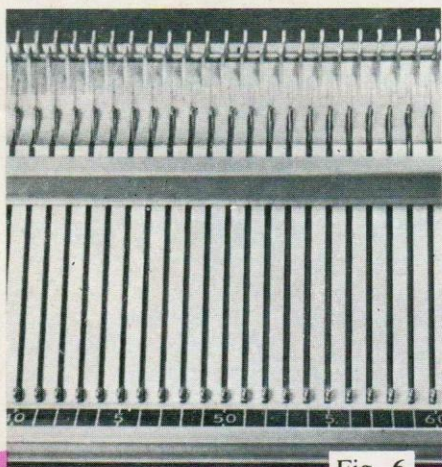

Fig. 6
- 1 Non working position—The heel of the needle rests against the numbered scale (Fig. 6).